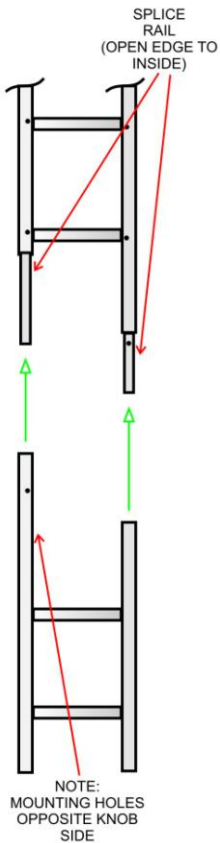

Figure 4.
5. To install the base section, slide the rails over the previously installed splice rails and align the holes as shown in *Figure 4* (see next page). Be sure to align the mounting holes on opposite sides of the locking knob.
8. Select the base assembly. Slide the channel rails splice previously installed until the holes are aligned. See *Figure 4*, on the next page.